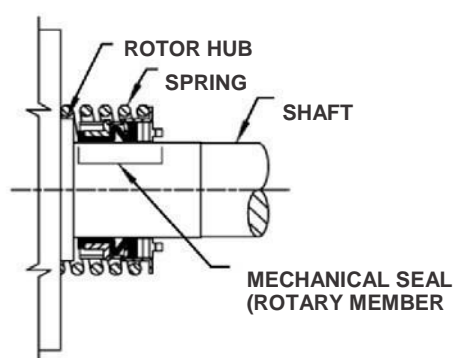

Figure 6. G-GG, G-HJ, G-HL
4. Place the seal spring on the shaft against the rotor hub. Refer to Figures 6 and 7.